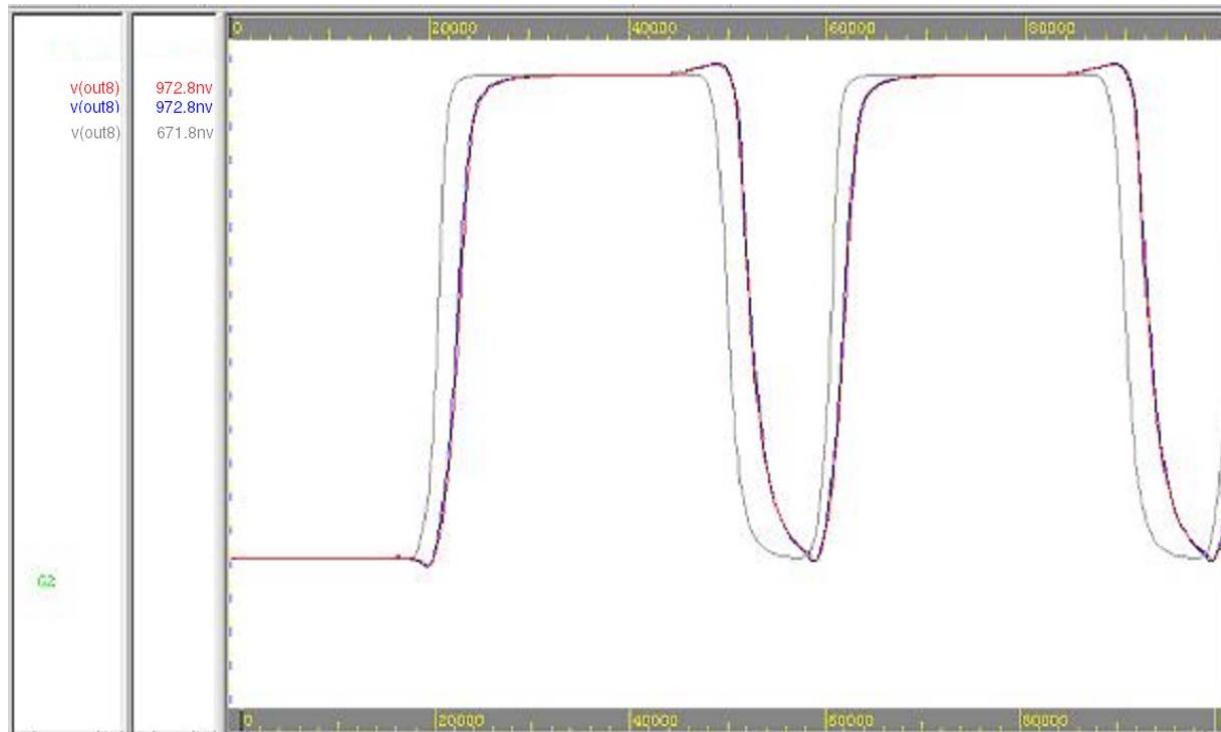

Figure 12 Results of Three Different HSIMSPEED Settings
3. Compare the simulation results of each simulation, using the results of run1 as reference. The simulation results shown in Figure 12 on page 358 are the overlay of HSIMSPEED on page 150=1, 3 and 5. In this example, the waveforms of HSIMSPEED on page 150=1 and HSIMSPEED on page 150=3 are almost identical, but HSIMSPEED on page 150=5 has significant delay difference compared with the other two simulation results.